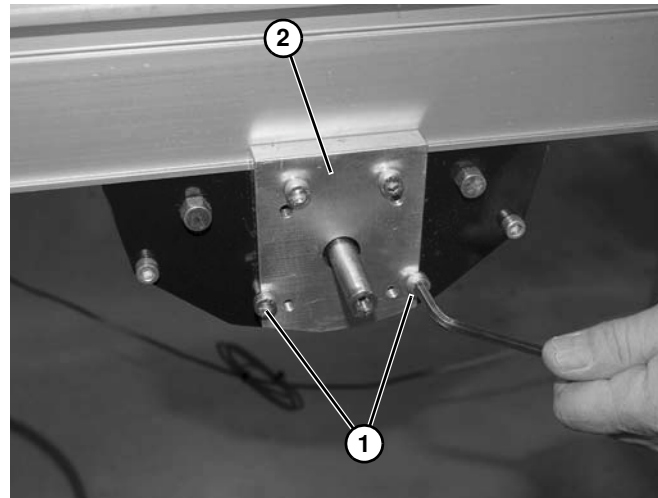
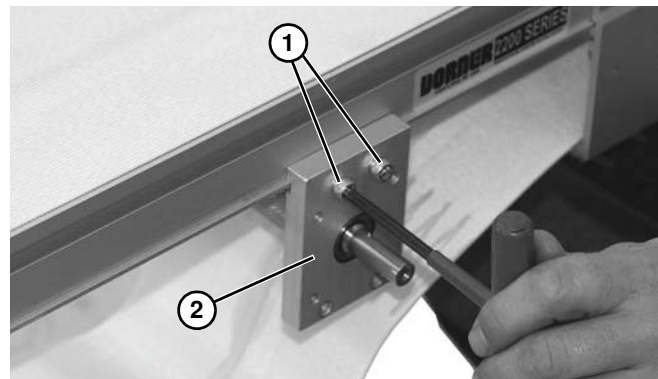

Figure 88
Figure 90
- Loosen two screws (**Figure 88, item 1**) from each side of mounting block (**Figure 88, item 2**).
- Loosen two screws (**Figure 90, item 1**) from each side of mounting block (**Figure 90, item 2**).
11. Tighten screws (Figure 88, item 1) and (Figure 90, item 1) to 60 in-lb (7 Nm).